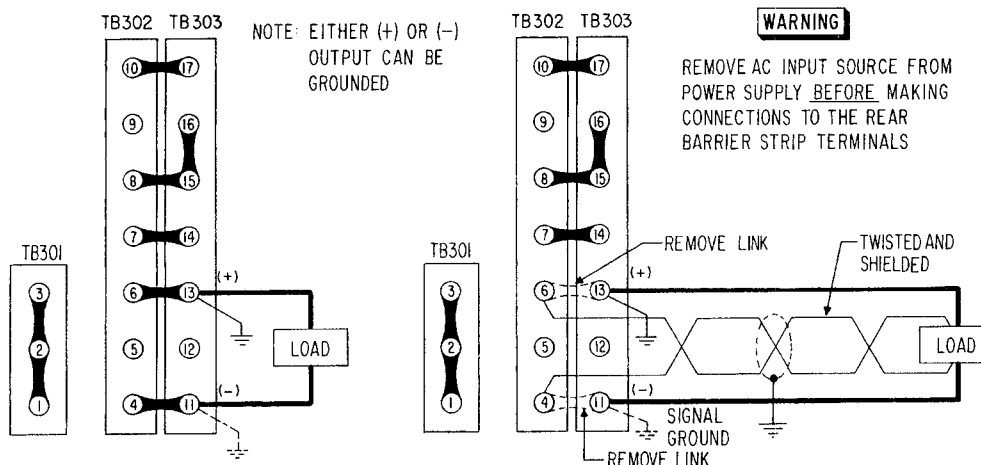
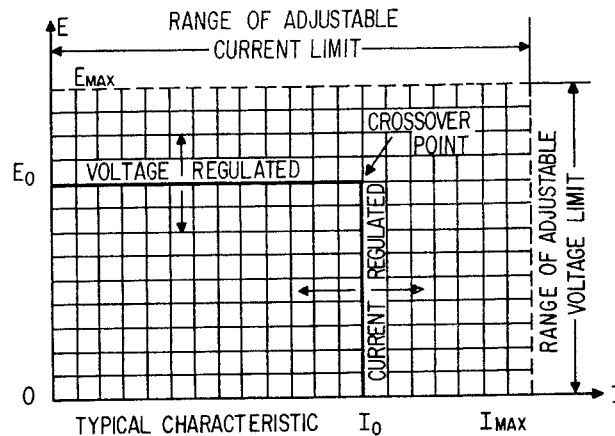

FIG. 3-4 LOAD CONNECTION WITH AND WITHOUT ERROR SENSING.
FIG. 3-5 AUTOMATIC VOLTAGE/CURRENT CROSSOVER.
- 3-13 LOAD CONNECTION. The load may be connected to the front or the rear output terminals as shown. Specified d-c performance is measured at the error-sensing terminal (4)—(6). Front terminal connection and remote load operation requires, therefore, the use of error sensing as shown in FIG. 3-4. A twisted, shielded pair of sensing wires is connected to the rear sensing terminals and terminated directly at the load. The shielded error-sensing leads must be insulated to the shield for (at least) the maximum output voltage of the power supply. Specified d-c performance is now available directly at the load.
- 3-14 TURN-ON. A-C power line turn-on is indicated by illumination of the red signal lamp at the front panel. The BHK power supply is now in standby condition. **A waiting period of approximately 30 seconds should be allowed to let the filaments of the series regulator tubes reach their operating temperature.** After the d-c switch is turned on, output is available at the output terminals. The "d-c-on" condition is indicated by the illumination of one of the white VIX® lights on the front panel. D-C output may also be switched on remotely by removing the jumper-links between rear terminals (18)—(19) on TB304 and inserting a single pole switch between those terminals. The BHK power supply may be switched "on" or "off" with its front panel controls in any position.
- 3-16 **AUTOMATIC CROSSOVER.** The operating mode of the BHK power supply will be determined by the setting of the front panel voltage and current controls and the load resistance. For any given setting of the output controls, a sharp crossover point exists where the load resistance (R_L) is equal to the output voltage (E_o) set by the front panel control, divided by the output current (I_o). Front panel signal lights (VIX[®] indicator) indicate whether the power supply is operating in the voltage or current mode of operation. (Refer to FIG. 3-5).